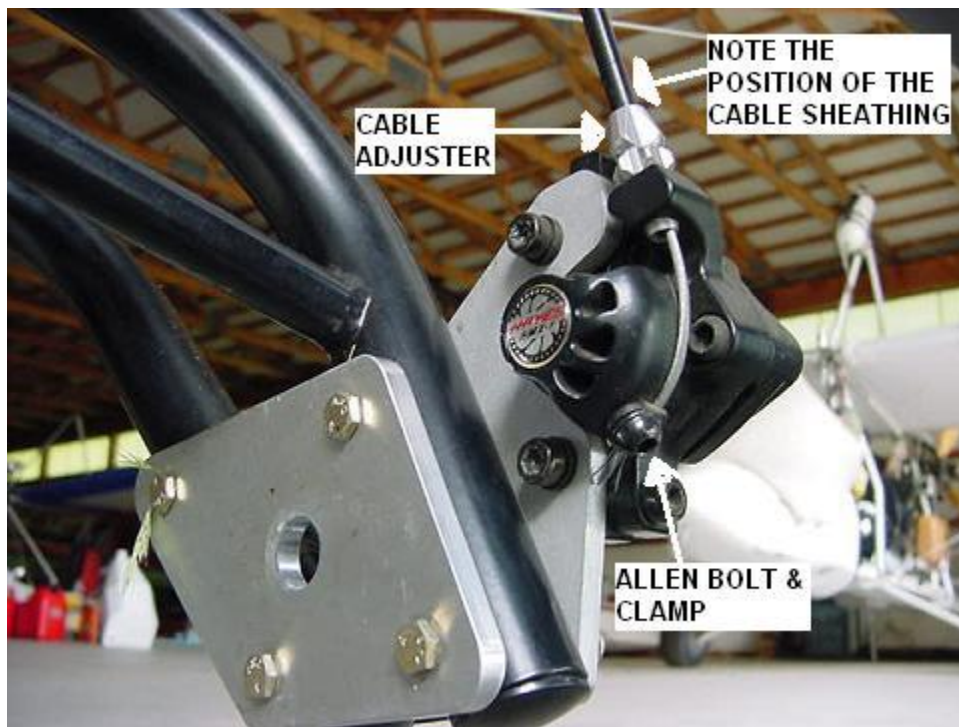

Figure 10 – Caliper and Cable Mounting
STEP 5 - Attach brake cable to the caliper. The cable runs through the cable adjuster on the caliper and is clamped in place using an Allen bolt and bracket as shown in Figure 10. Note the positioning of the black cable sheathing in the cable adjuster. The sheathing should be inserted until it is resting on the inside of the cable adjuster. The sheathing should also be inserted into the cable adjusters on the brake handle until they are resting on the inside of the handle cable adjuster as shown in Figure 6. These must be adjusted properly or the brakes will not work. The adjustment is usually made by pulling the bare brake cable through the Allen bolt and clamp until there is no slack left. The Allen bolt and clamp will allow adjustment of the brake sensitivity after the brake system is completely installed.